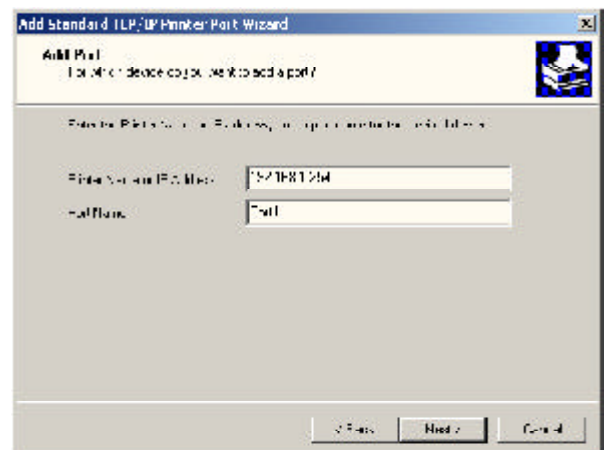

Fig 4.3
Step 6 Type in the **IP address** of the Print Server and the **port name** you have written down on the piece of paper in Section 3 and click **Next**. See *Fig. 4.3*